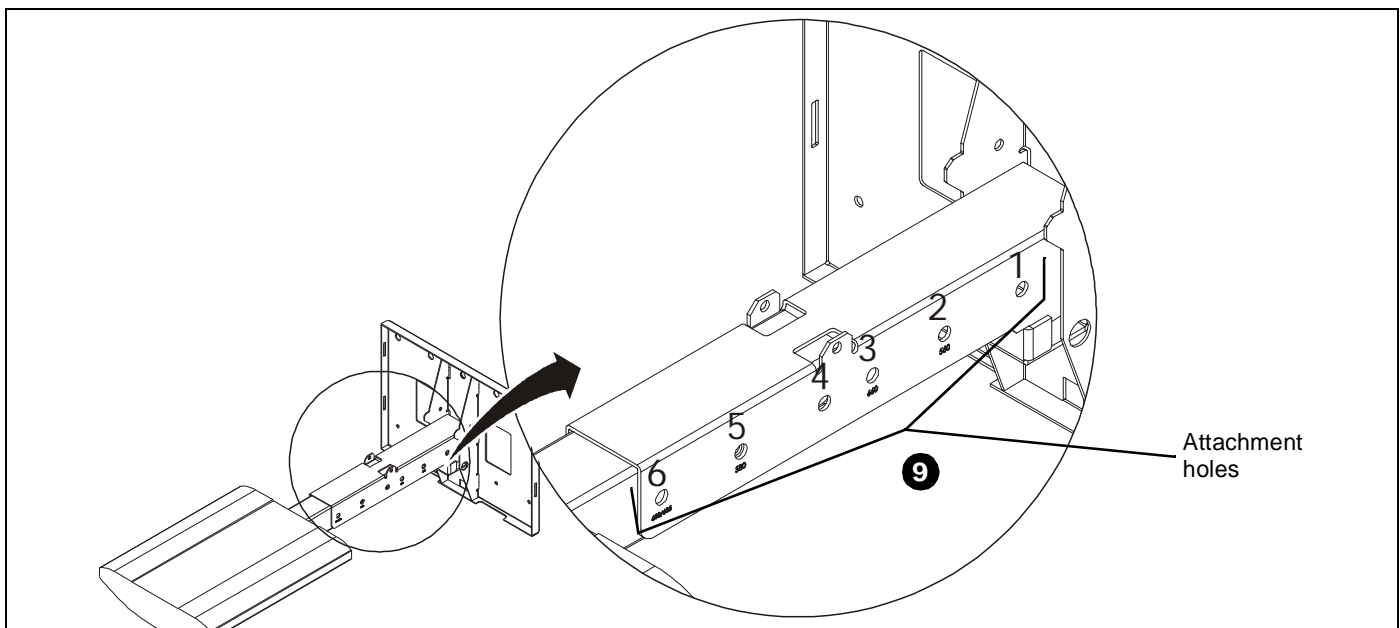

Figure 3
See Figure 3 for boom arm positioning
9. Fasten SMART Board boom arm in place using hardware provided with SMART Board projector arm system. (See Figure 3)